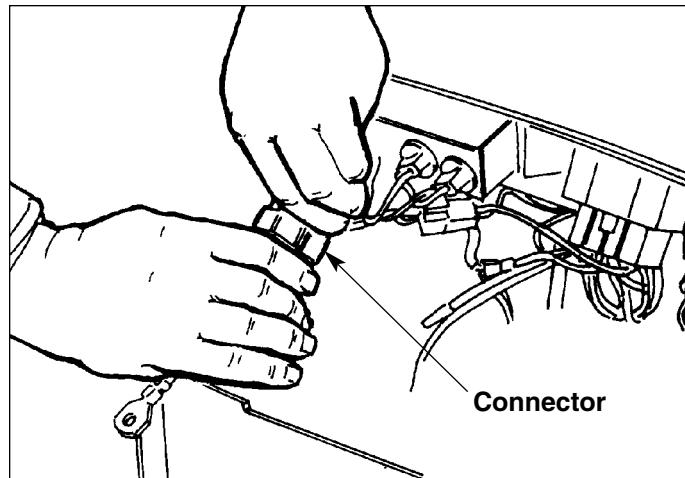

Figure D-11. Disconnect Lower Harness Connector
11. See Figure D-11. Disconnect the lower harness connector by pulling the two halves apart. Use a firm grip and a light, side-to-side flexing motion on the connector to separate the connector halves.